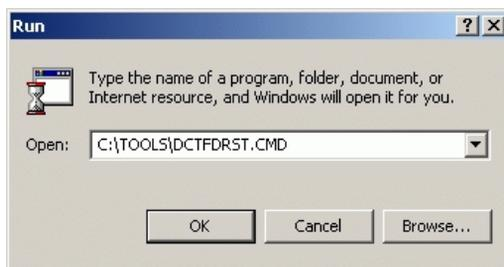

Figure 63 Run Dialog Box
- a. At the server's Windows 2000 desktop (Figure 13), click *Start* at the left side of the task bar, then select the *Run* option. The *Run* dialog box displays (Figure 63).